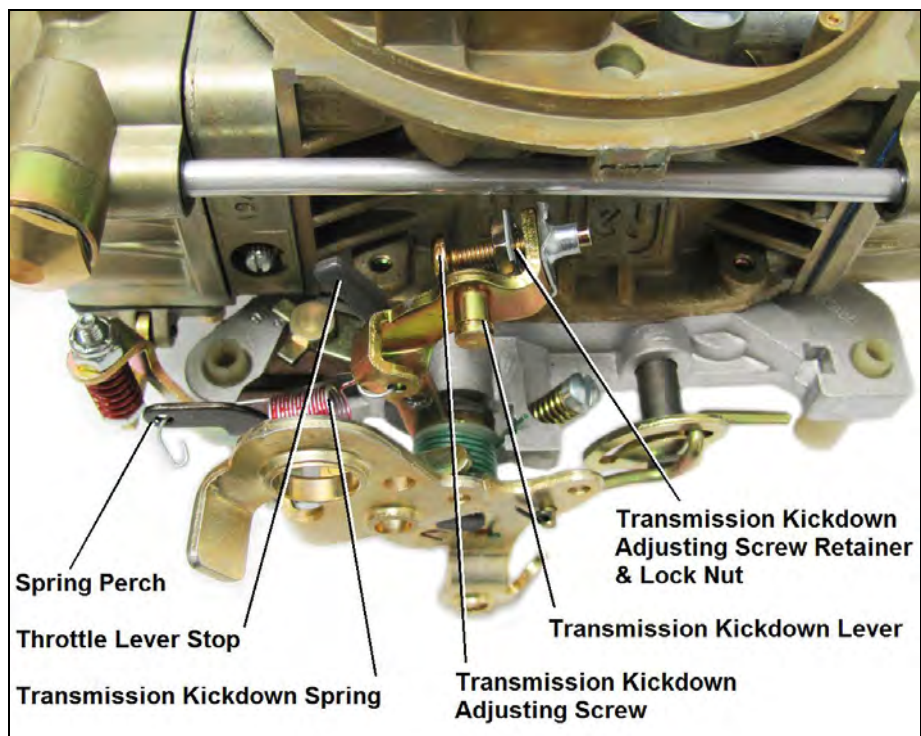

Figure 5—Ford applications
2. Insert the transmission kickdown screw with the retaining clip and lock nut on the transmission kickdown lever (Figure 5). This assembly must be installed according to the detailed drawing (Figure 5).
4. Install the transmission kickdown spring between the transmission kickdown lever and spring perch (Figure 5).